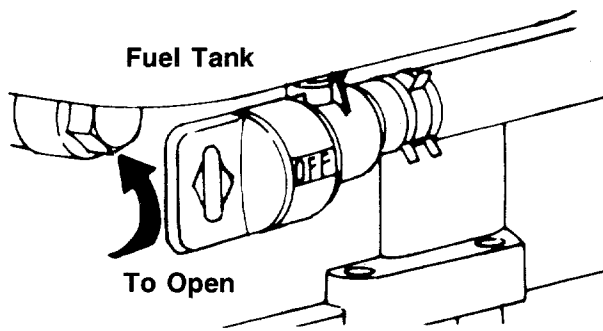

FIGURE 12.
2. **Deluxe Briggs and Stratton engines:** Open fuel shut-off valve. See figure 12.